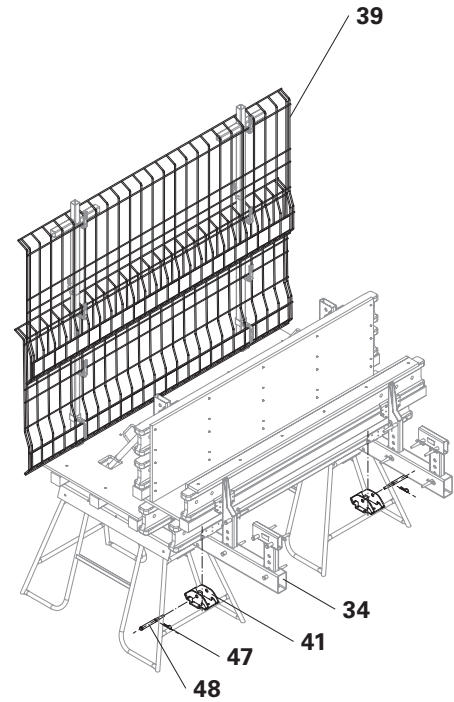

Fig. C1.07
4. Attach 2x Side Mesh Barrier PMB 260 (39) on top of each other on the Post Connectors Edge Beam VD (37). (Fig. C1.07)
1. Mount Prop Connector VD (41) on the Platform Beam (34) using Fitting Pin \varnothing 21 x 120 (48) and secure with Cotter Pin 4/1 (47). (Fig. C1.07)